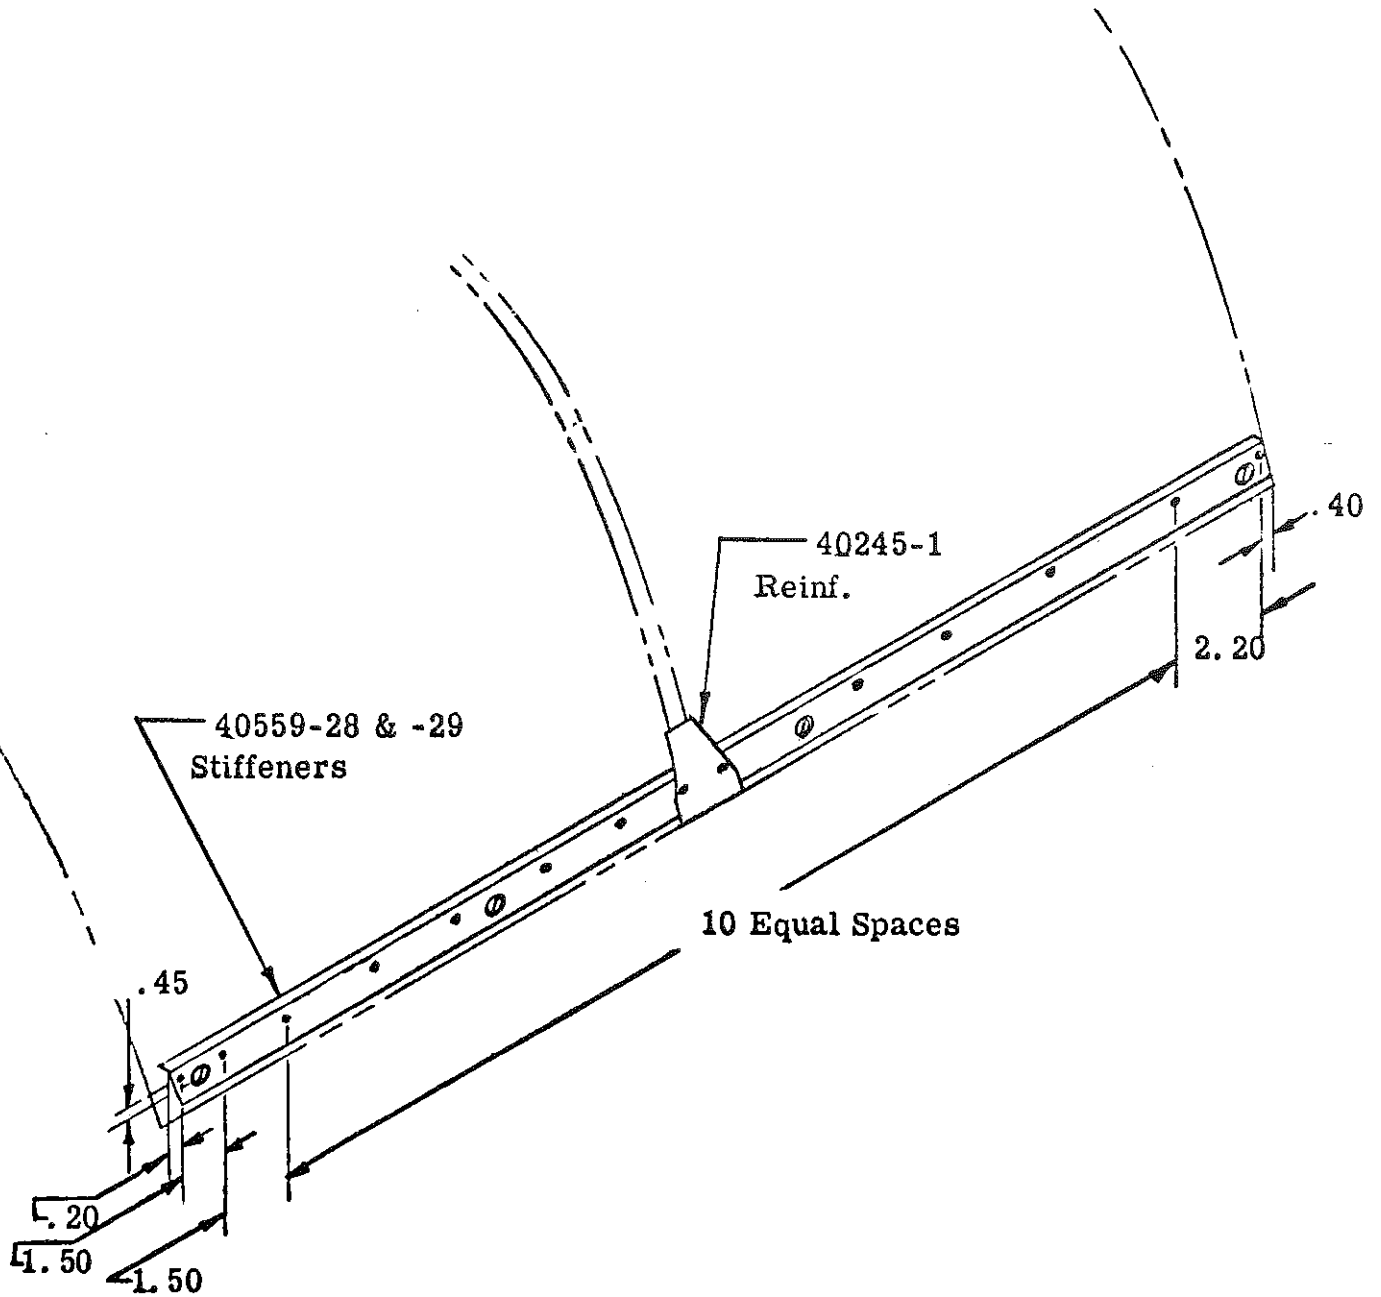

Figure 1
1. Remove the four (4) Camloc fasteners on each door.
2. Drill out the two (2) rivets which secure the 40245 reinforcement to each door, and remove the reinforcement.
3. Install the 40245-1 reinforcement in same location and secure with two (2) MS20470AD3-4 rivets.
5. Per figure 1, drill fourteen (14) No. 40 (.098) holes through door and stiffener and secure each stiffener with MS20470AD3-4 rivets.
6. Reinstall the four (4) Camloc fasteners on each door.